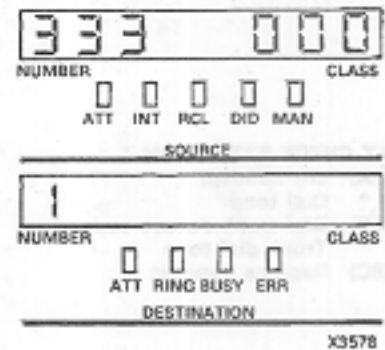

Fig. 322-1
- \* DESTINATION display shows room status code (and period if maid in room) (See Fig. 322-1 and Table 322-1)
- \* DESTINATION display changes to read digit '1' for room status (Fig. 322-1)
shown in Fig. 322-1